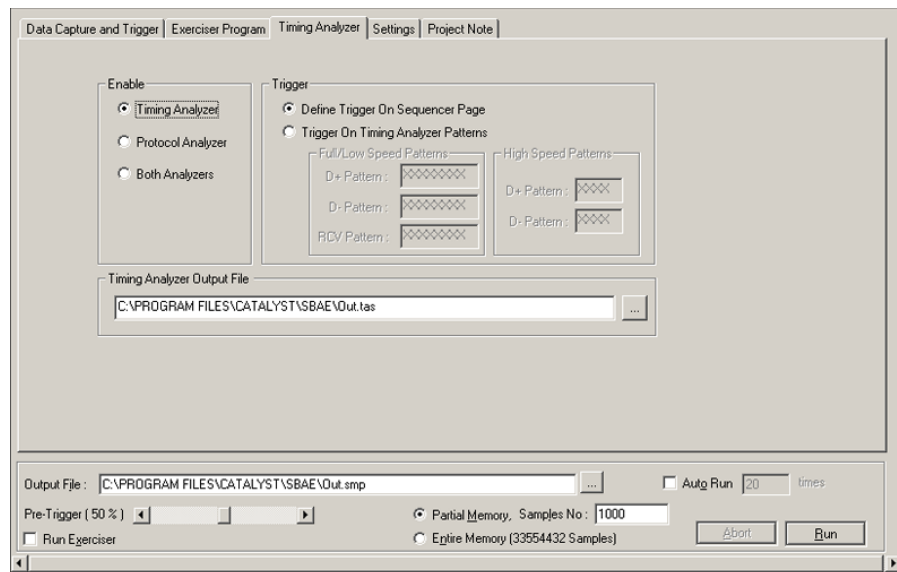

Figure 94 Enabling Timing Analysis
2. Click the **Timing Analyzer** tab and check either the **Timing Analyzer** or the **Both Analyzers** button in the Enable area as shown in Figure 94.